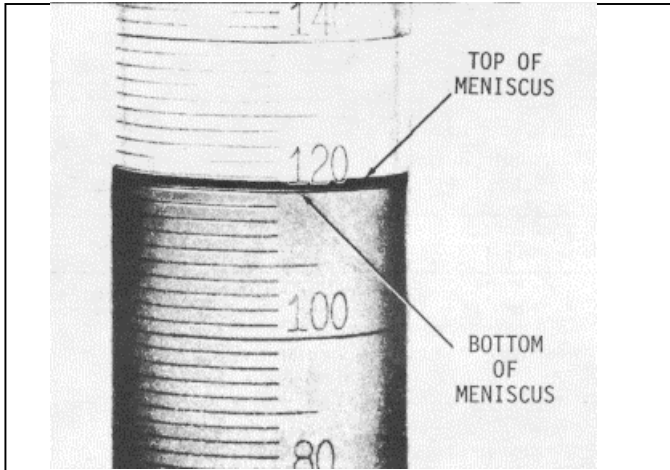

Fig. 1. Checking Fuel Output
- (1) Operator Errors: If the column of liquid in the vial is read at the top of the meniscus instead of at the bottom, a variation of 1 or 2 points will result. Refer to Fig. 1.
- (2) Air Lines: This can be caused by starting a test before the air is purged from the injector and lines, or from an air leak on the vacuum side of the pump.
- (3) Counter Improperly Set: The counter should be set to divert the injector output at 1,000 strokes.